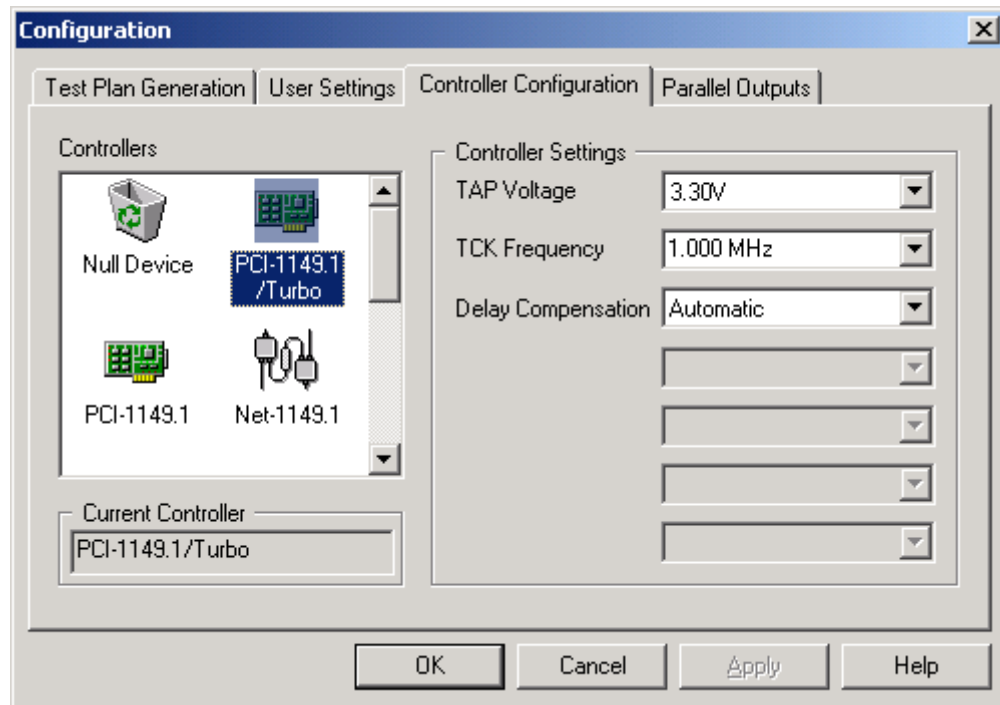

Figure 4-2. PCIe-1149.1 Setup Screen (but ScanTAP-4 not connected)
5. Once ScanPlus Runner finds the PCIe-1149.1 controller, **if for some reason the ScanTAP-4 is not connected to it**, it displays a screen similar to Figure 4-2. If the ScanTAP-4 is connected after seeing this screen you must exit this program and re-start at step 1.